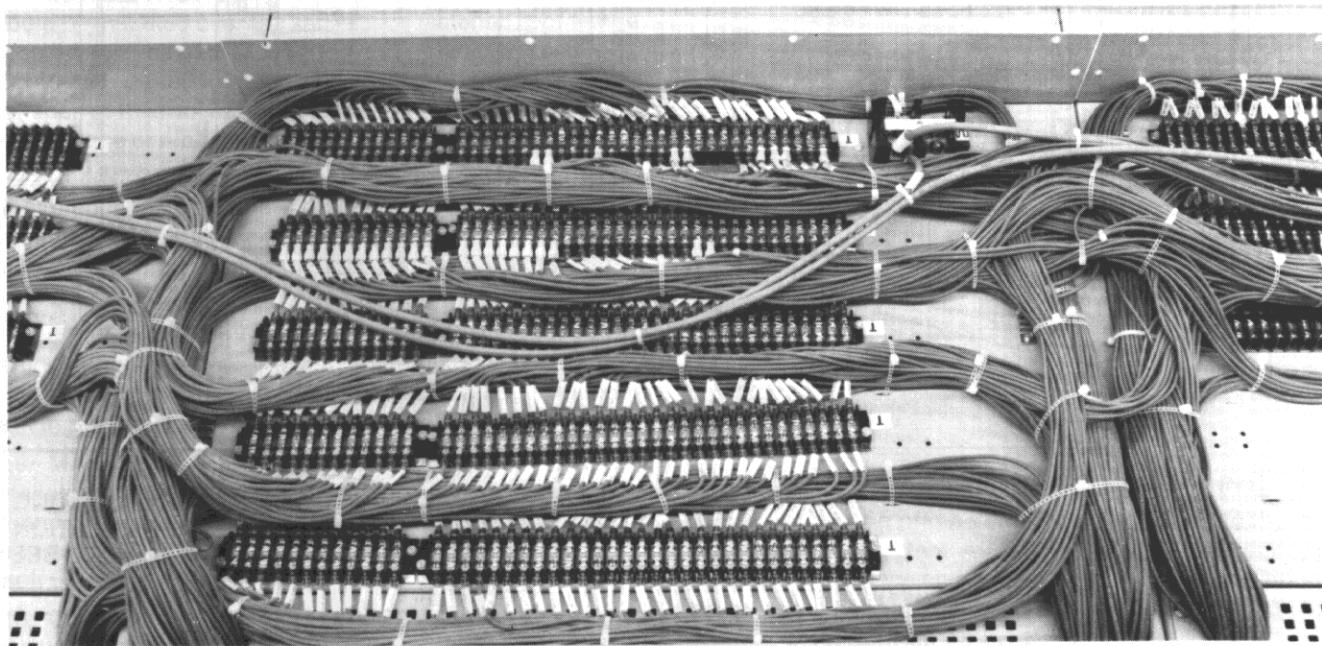

Fig. 4-18. Control wiring is located in the wiring trough on top of the equipment
6. INTERCONNECT CONTROL WIRING—Interconnection of control wiring across shipping splits is accomplished by connecting to terminal blocks located in the cross-section wiring trough on top of the equipment shown in Fig. 4-18.